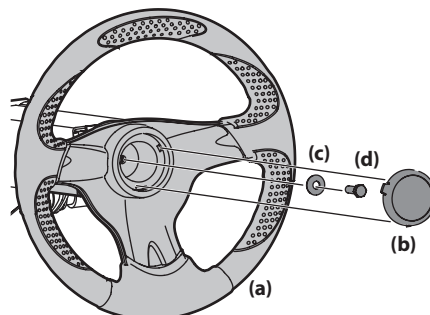

Figure 2-3
- Remove the hardware for attaching the steering wheel (a) from beneath the steering wheel cover (b). Carefully pry off the steering wheel cover (b) to remove the hardware. See Figure 2-3.
- With the wheels of the machine pointing straight forward, place the steering wheel (a) over the steering shaft. See Figure 2-3.
- Place the belleville washer (c) with the cupped side facing inward over the steering wheel (a) and secure with the hex lock screw (d). See Figure 2-3.